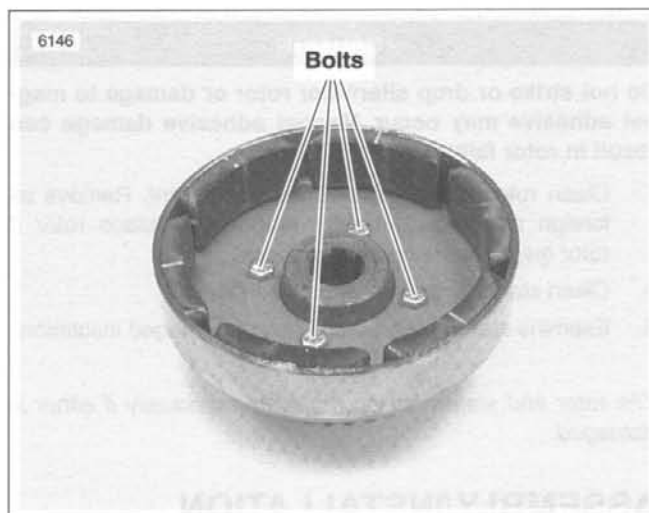

Figure 7-23. Rotor Assembly
1. See Figure 7-23. Remove the four bolts which secure alternator rotor to engine sprocket.